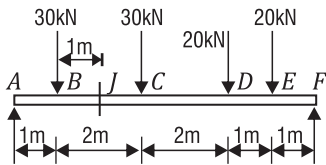
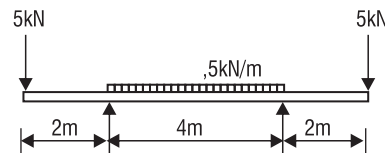

Figure 4.33
Figure 4.39
2. Calculate the reactions and draw the shearing force and bending moment diagrams for the beams shown in **Figure 4.33 – Figure 4.39**. Calculate the magnitude of the shearing force and bending moment at point J in each case.